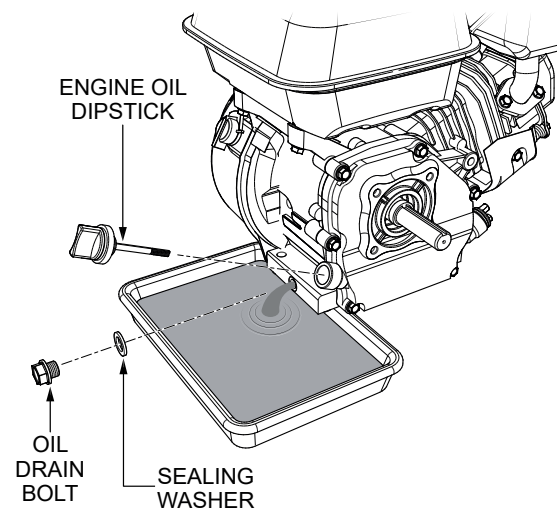

Figure 35. Draining Engine Oil
2. Drain the engine oil when the oil is warm as shown in (Figure 35).